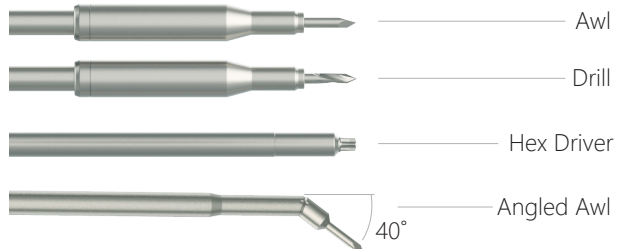

Figure 9a
- Straight instrumentation includes the Self-Guided Straight Awl, Self-Guided Straight Drill, Straight Hex Driver (Screw Inserter), and Angled Awl (Figure 9a)
- The Angled Awl offers a fixed 40° angle (Figure 9a)